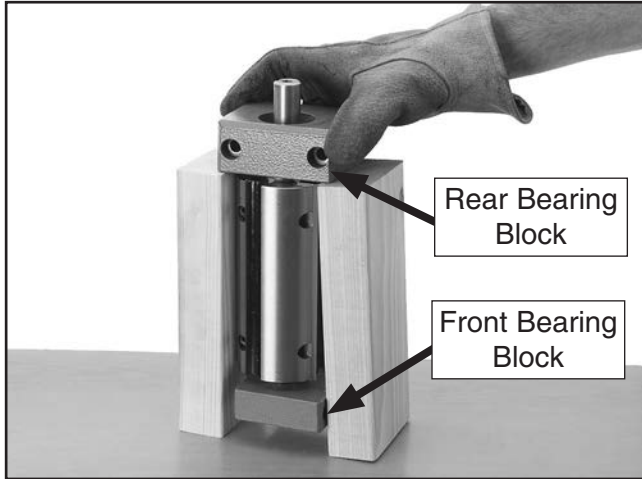

**Figure 4.** Example of cutterhead removed.
6. Wearing heavy leather gloves, carefully remove the cutterhead from the casting (see **Figure 4**).
7. Remove bearing block studs (see **Figure 4**).